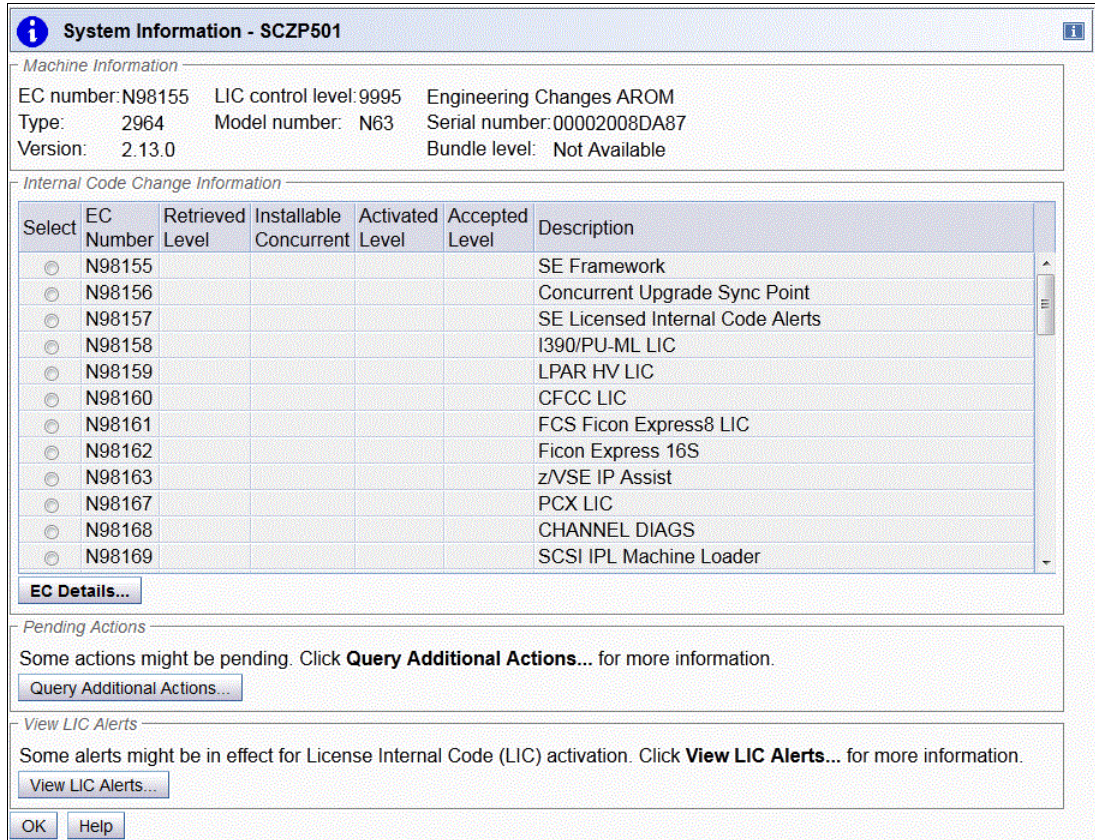

Figure 3-15 System information with bundle level
The System Information window is enhanced to additionally show a summary bundle level for the activated levels. To do so, all applicable Engineering Change (EC) streams information must have the same bundle level. If they do not match, Not Available is displayed as the bundle level. An example of the bundle level is shown in Figure 3-15.